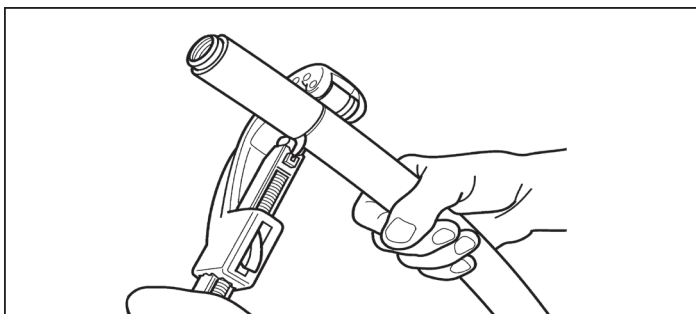

Figure: 4-54
- Using the appropriate tubing cutter with TracPipe #FGP-E-5272 cutting wheel, score the black sleeve approximately half of the way through. Use extreme care not to cut or score the stainless corrugated pipe! Typically, no more than two turns in on the cutter is sufficient (Figure 4-54).